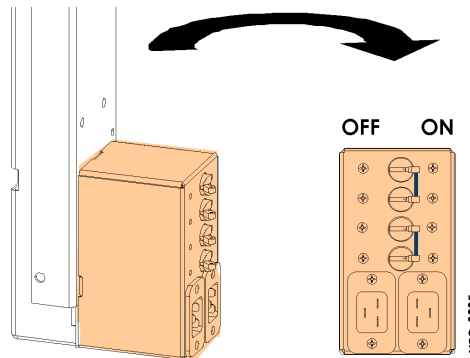

Figure 2-2: Power Strip Circuit Breakers
- a. Set both circuit breakers to the ON position (see Figure 2-2).